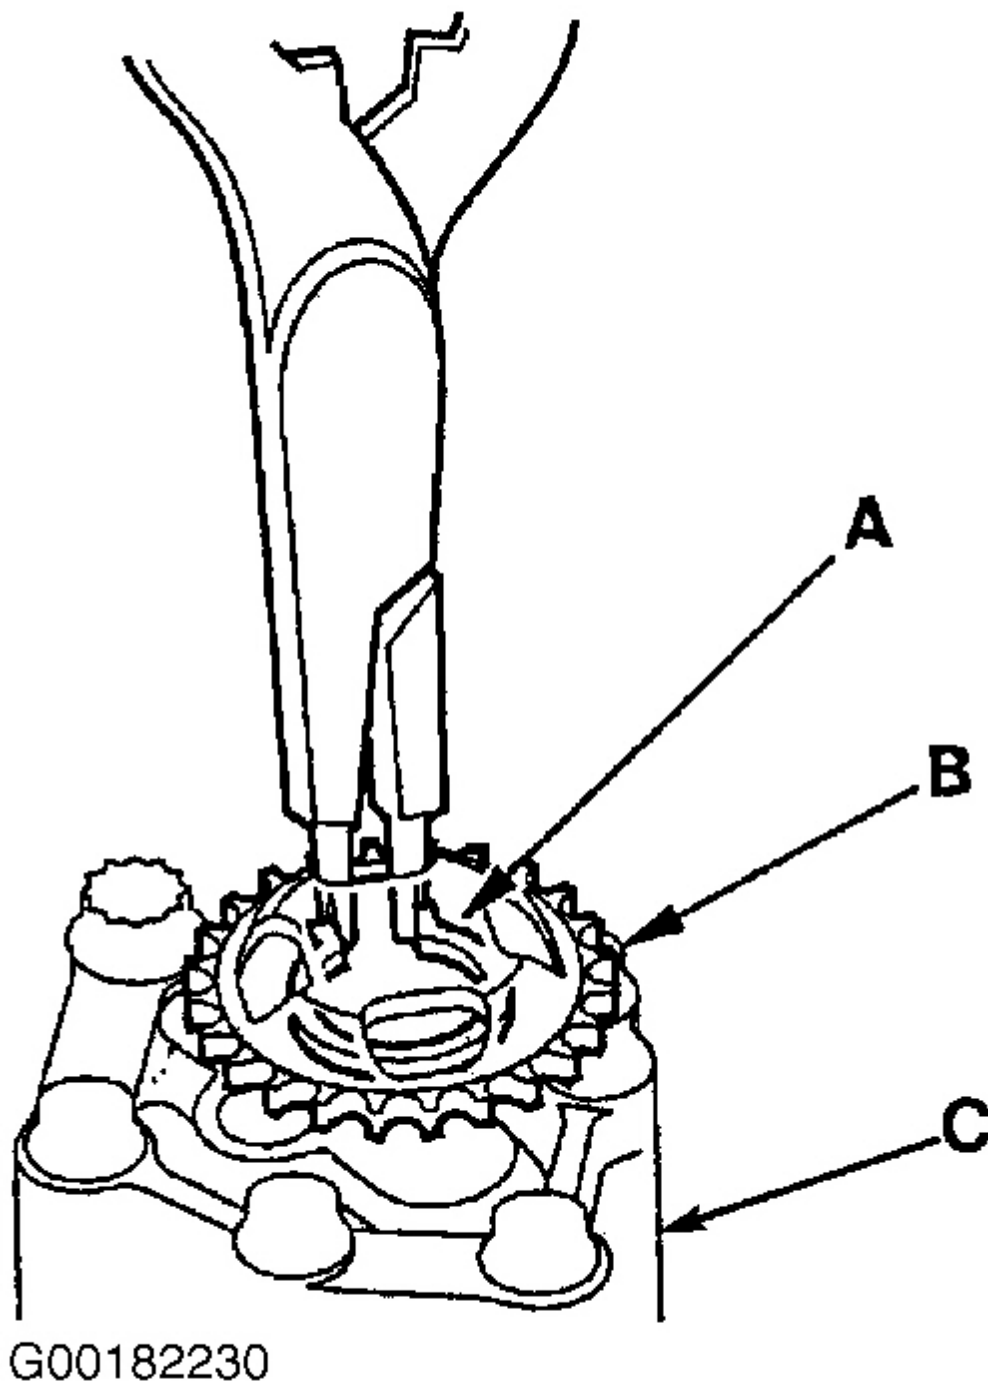

Fig. 4: Expanding Snap Ring Under Oil Pump Driven Sprocket
2. Expand snap ring (A) under oil pump driven sprocket (B) with snap ring pliers, then remove oil pump driven sprocket. See Fig. 4 . Remove oil pump body (C) from transaxle housing.